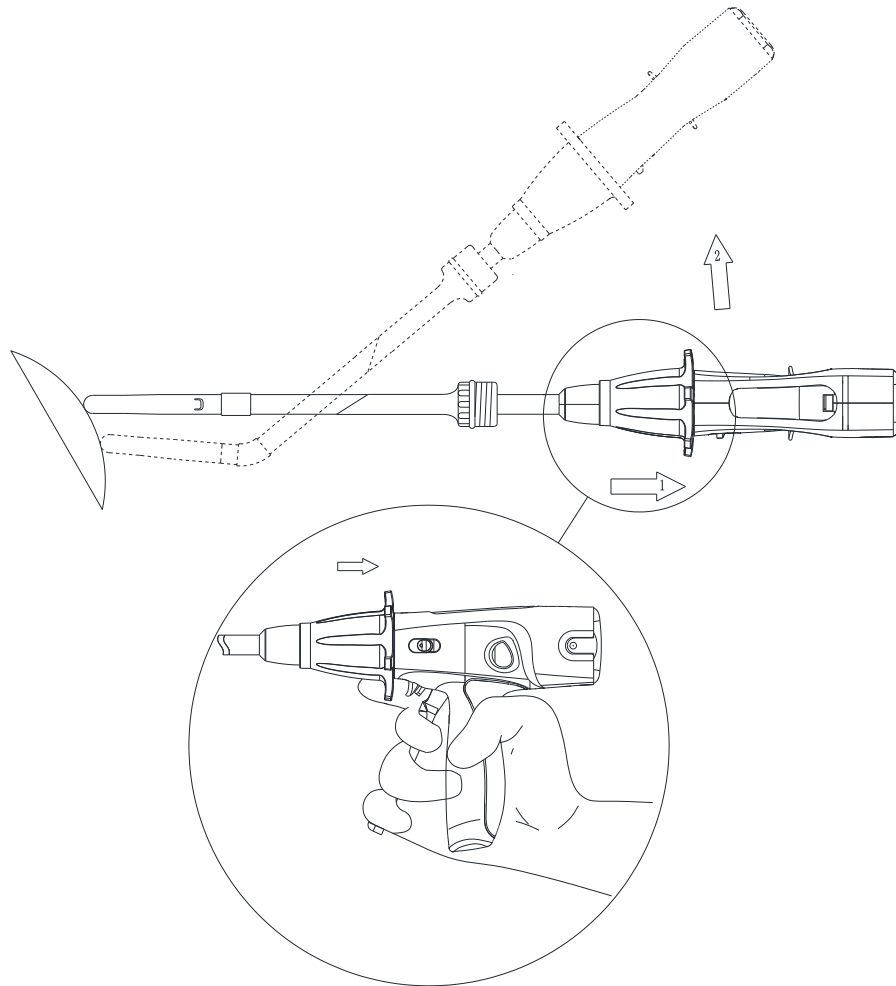

Figure 3-14
- 5) When bending the device jaw in the body cavity, select an appropriate surface (a body structure, organ or another device) as the contact surface, bend the device jaw and ensure that it is within the field of vision. Place the transverse side of the device jaw opposite to the desired joint direction against the contact surface (the device jaw must be open to bend the device) (Figure 3-14).